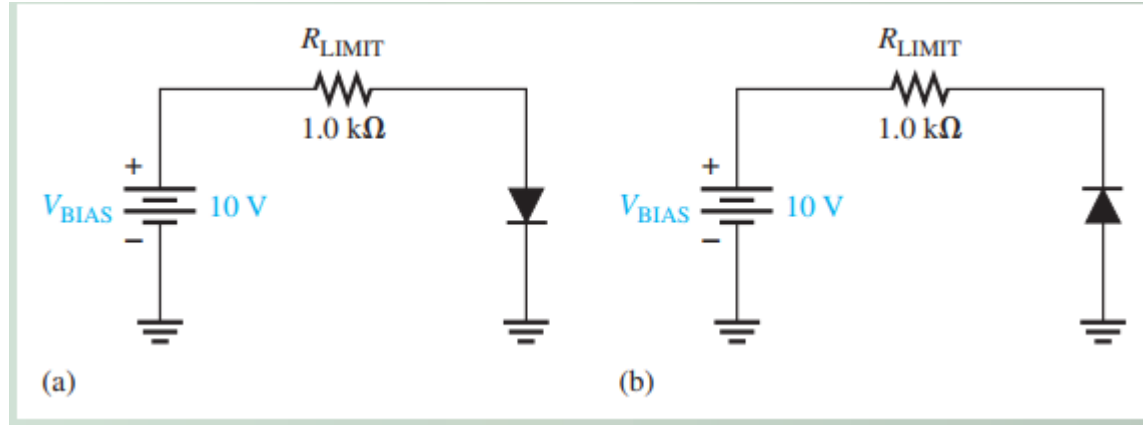

Fig 2.18 — Example 2-1 circuits: (a) forward bias, (b) reverse bias
- (a) Determine the forward voltage and forward current for the diode in Figure 2-18(a) for each of the diode models. Also find the voltage across the limiting resistor in each case. Assume $r_d = 10\Omega$ at the determined value of forward current.
- (b) Determine the reverse voltage and reverse current for the diode in Figure 2-18(b) for each of the diode models. Also find the voltage across the limiting resistor in each case. Assume $I_R = 1\mu A$.